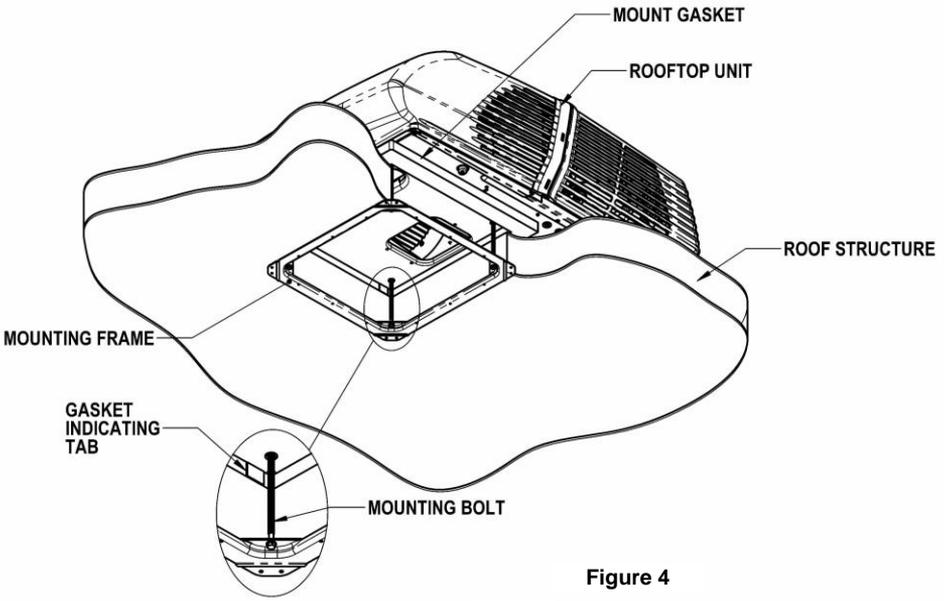

Figure 4
- A mounting frame is supplied with the ceiling assembly. Follow the steps below to secure the Heat Pump to the roof. Refer to Figure 4.
- c. Proper tension has been achieved for each bolt when any portion of each gasket indicating tab has been pulled down even with the roof (See Figure 4). The upper unit has now been properly installed with optimum gasket compression.